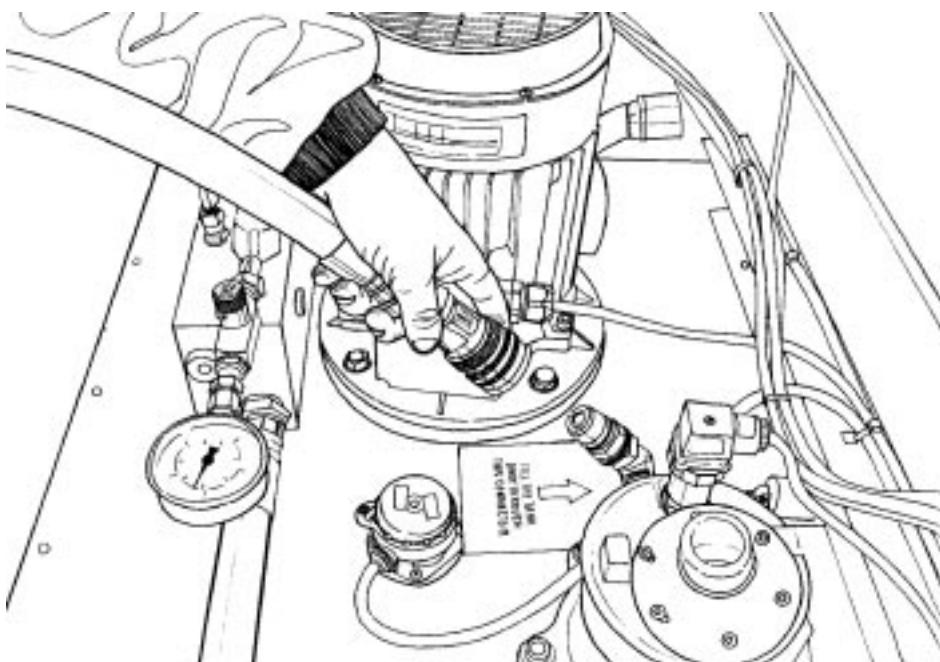

Fig. 1. Filling up the oil tank through the bayonet coupling.
- Always fill the oil tank through the bayonet coupling, see Fig. 1. Then the oil flows into the tank through the cooling system filter and, again, part of the impurities is filtered out of the oil.